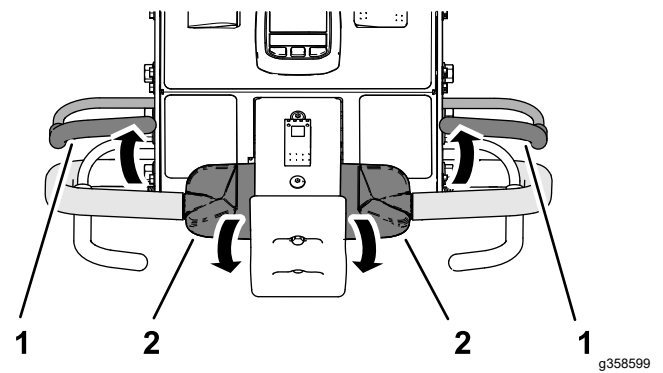

Figure 34
3. While holding the traction control, release the operator-presence bail (Figure 34).